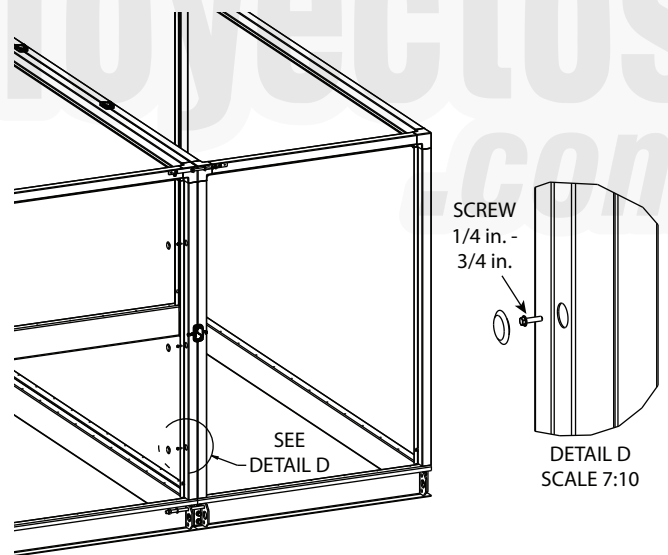

Fig. 25 — Attaching CCH at Section Split — Location of Screw Holes
- c. Use tool clearance holes to install 1/4-in. screws into the downstream frame for the permanent section joint (only necessary on the CCH side). Detail D in Fig. 25 shows the location of the holes; the number of holes will vary by unit.